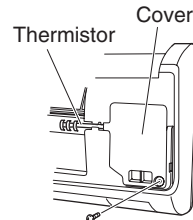
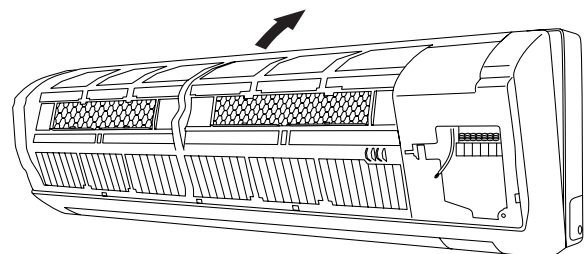

Fig. 10a
Fig. 11b
- (3) Remove the screw on the right side cover plate and open the cover. (Fig. 10a)
- (1) When installing the grille, place the bottom of the grille into the frame first. (Fig. 11b) Then insert the tabs on the top of the grille and on the front face into the frame.
- (2) Make sure that the grille and frame are firmly fitted together by engaging the tabs.
- (3) Attach the thermistor on the grille. (Fig. 10a)
- (4) Close the cover and replace the screw. (Fig. 10a)